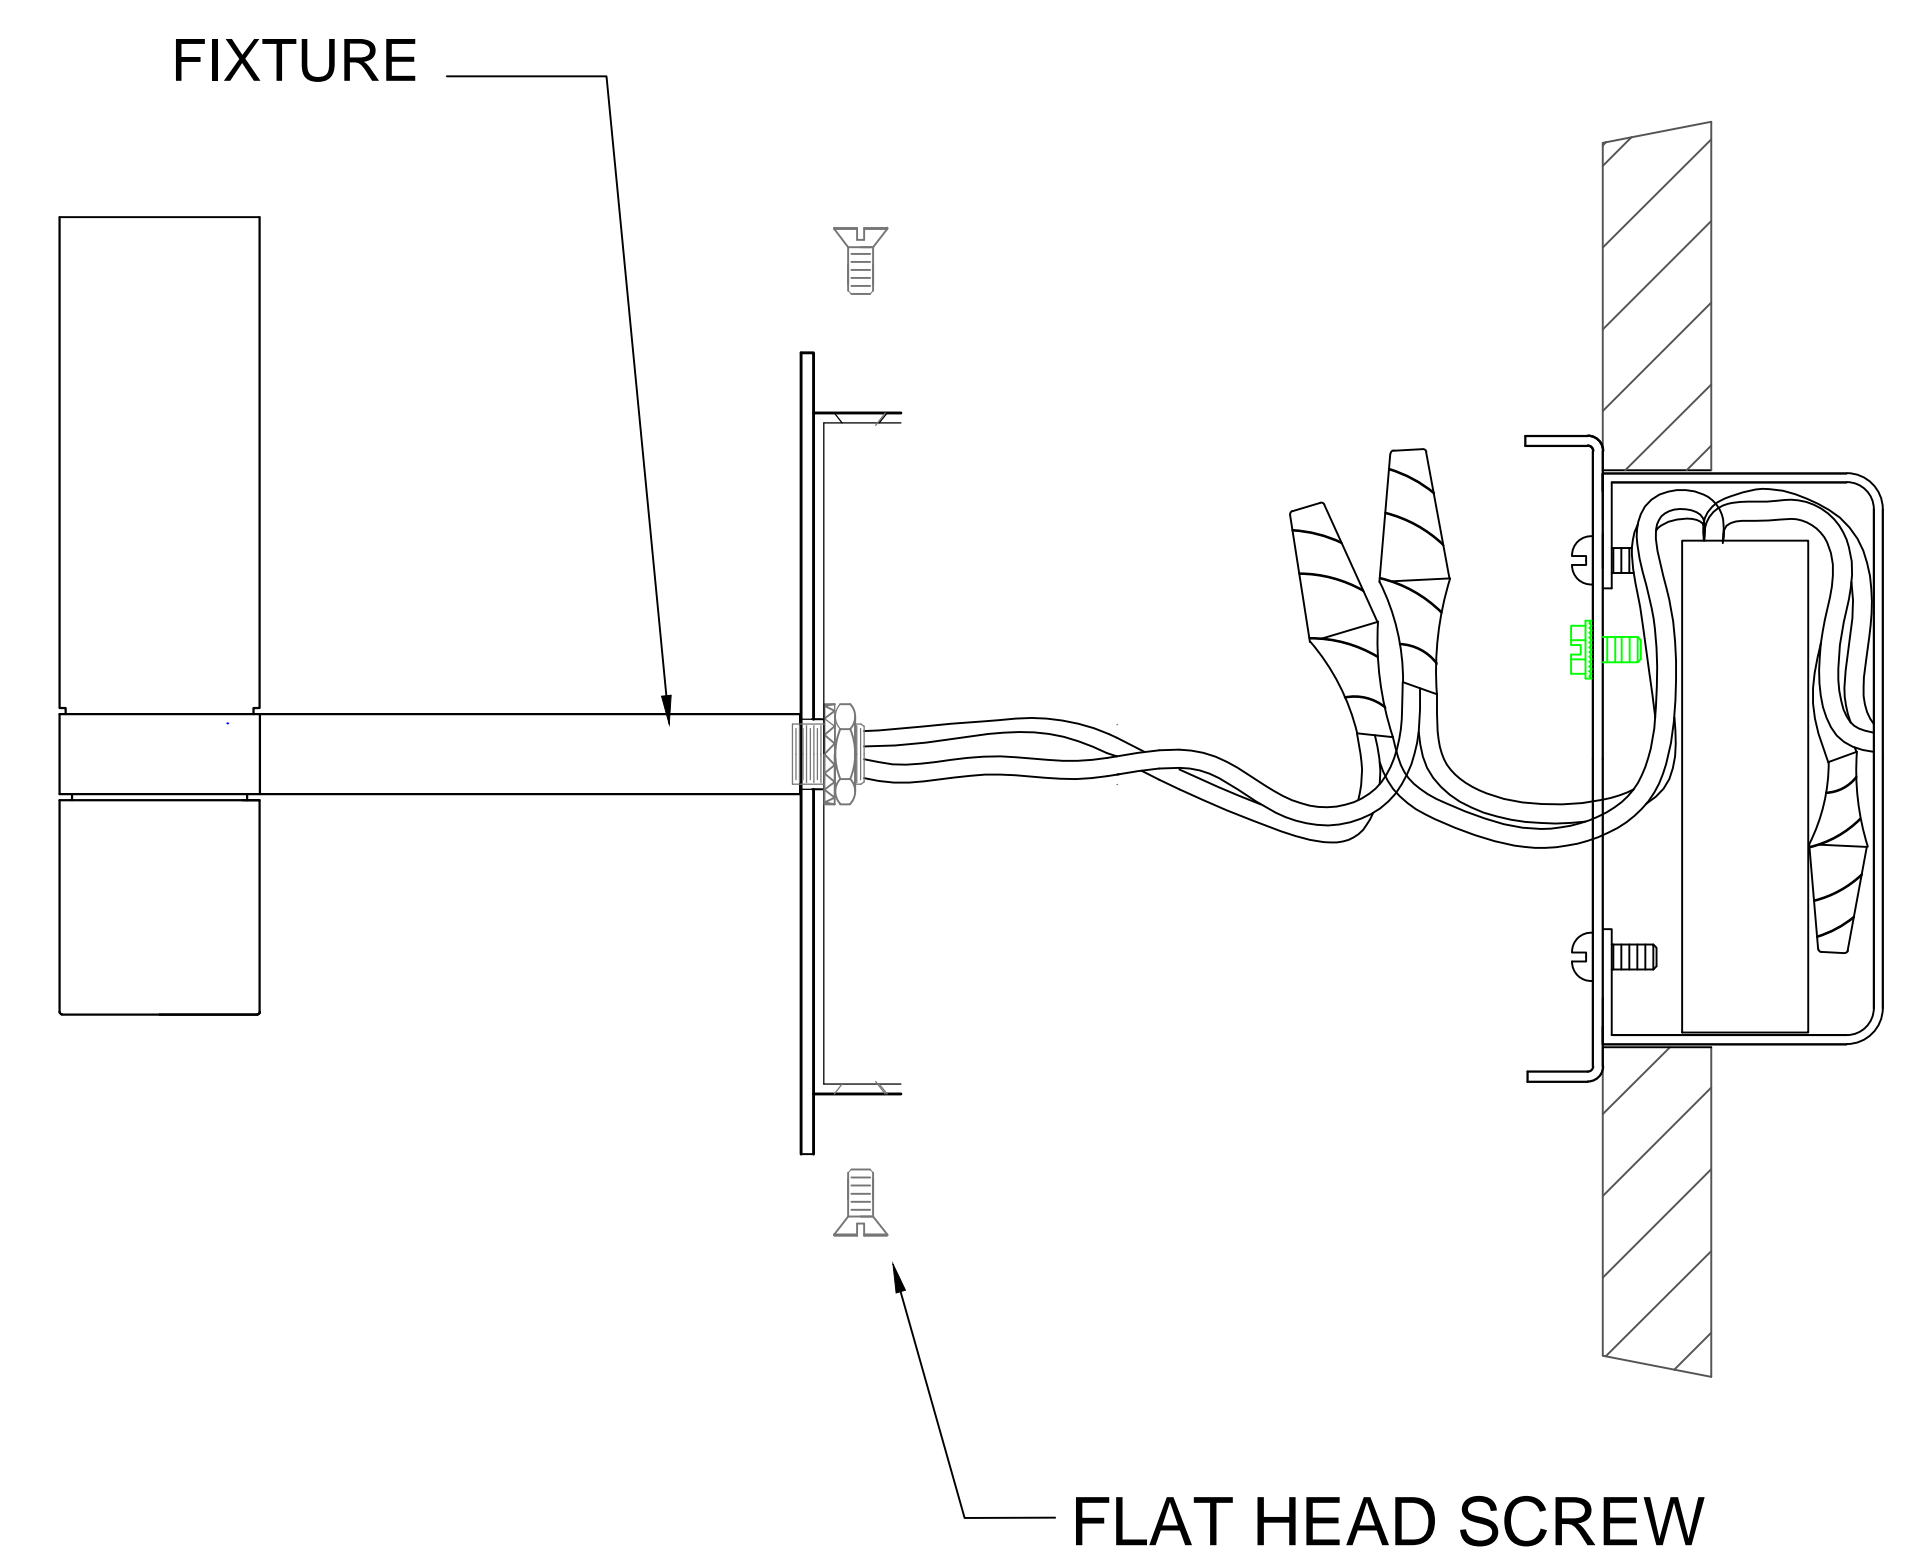

FIGURE-04
7. Complete the assembly by aligning the fixture onto the mounting plate. Secure the assembly by tightening the upper & bottom flat head screw (See Figure-04)